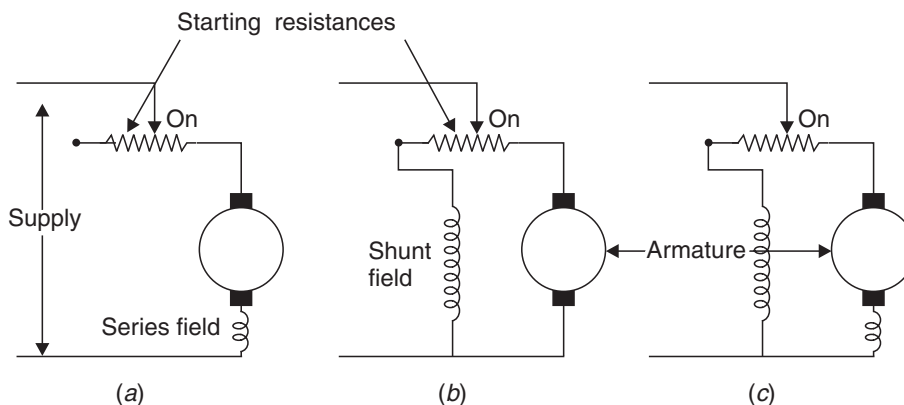

Fig. 75. Circuits incorporating starting resistances.
Fig. 75 shows the connections of a starting resistance in three types of D.C. motors :
- In the case of *series motor* [Fig. 75 (a)], the armature, field and starting resistance are all in series.
- In the case of *shunt motor* [Fig. 75 (b)], it will be seen that the *top end of shunt field is connected to the first contact on the starting resistance.* This is to ensure that the *field winding receives the full supply at the moment of switching on.* If the fields were connected to the *last stud of the starting resistance*, then on starting, the field would receive only a *proportion of the supply voltage*, the *field current would be correspondingly weak* and the *torque might be too small to start the motor against the friction of the moving parts.*
- The connections for the *compound motor* are seen from [Fig. 75 (c)] to be a combination of those of the series and the shunt connections.